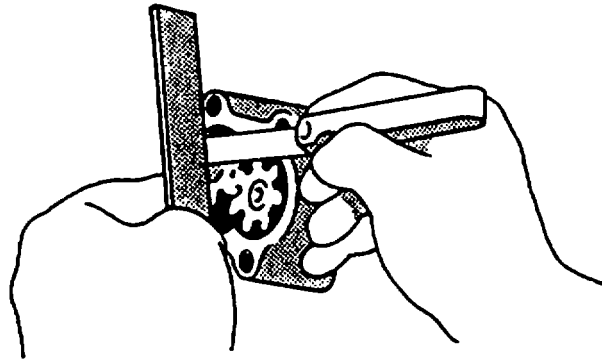

FIGURE 3-54. Measuring Oil Pump Axial Clearance
- d. Using straight edge and feeler gage, check axial clearance between gear and pump cover, refer to FIGURE 3-54. Clearance standard is 0.002 to 0.007 inch (0.05 to 0.017 mm). Maximum permissible axial clearance is 0.0085 inch (0.22 mm).